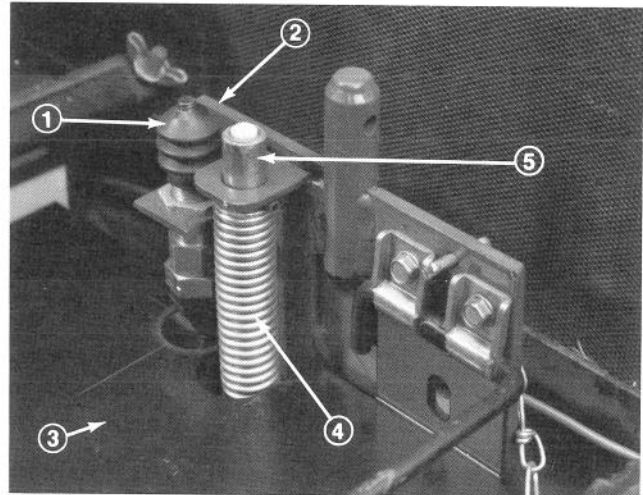
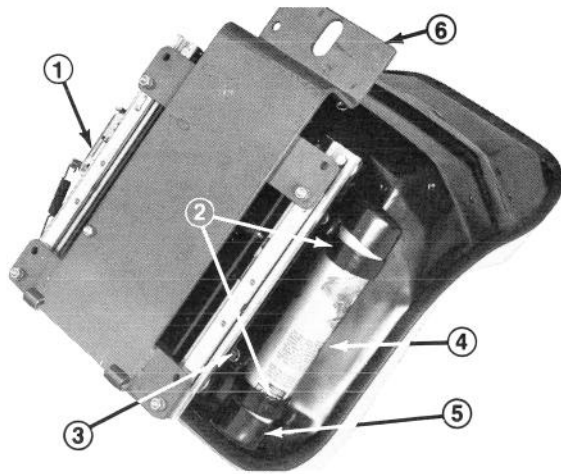
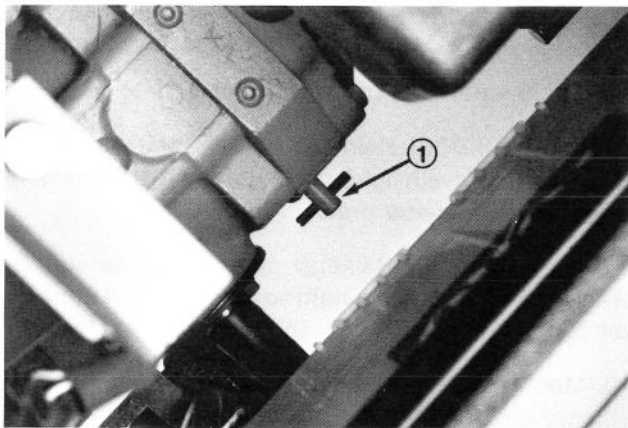

Figure 6
Figure 11
Figure 12
- (Model 30739 only) Remove boot from button end of seat switch (Fig. 6). Pull connectors off switch terminals.
- (Model 30739 only) Remove flange screw, truss head screw, (2) locknuts and spacer securing sealing plate, over fuel tank, to frame (Fig. 6). Remove sealing plate.
- Insert pin part way into hole in top of seat support bracket on machine (Fig. 6).
- (Model 30739 only) Remove flange screw, truss head screw, (2) locknuts and spacer securing sealing plate, over fuel tank, to frame. Remove sealing plate.
- (Model 30739) Reinstall sealing plate to frame, above fuel tank with flange screw, truss head screw, (2) locknuts and spacer previously removed.
- Mount seat suspension assembly to (4) capscrews on seat bottom and secure with (4) lockwashers, flat-washers and nuts (Fig. 11).
- Loosely secure (2) R-clamps to right side of seat bottom with (2) capscrews supplied in kit (Fig. 12). Install manual tube into R-clamps and tighten capscrews (Fig. 11).
12. Mount seat support over four threaded studs at the bottom of seat suspension assembly and secure in place with lockwashers and nuts (Fig. 11).
1. Reach in and rotate by-pass valve on transmission (Fig. 12) counterclockwise 1/2 to 1 turn. Opening the valve opens an internal passage in the pump, thereby bypassing transmission oil. Because fluid is by-passed, the machine can be pushed without damaging the transmission.